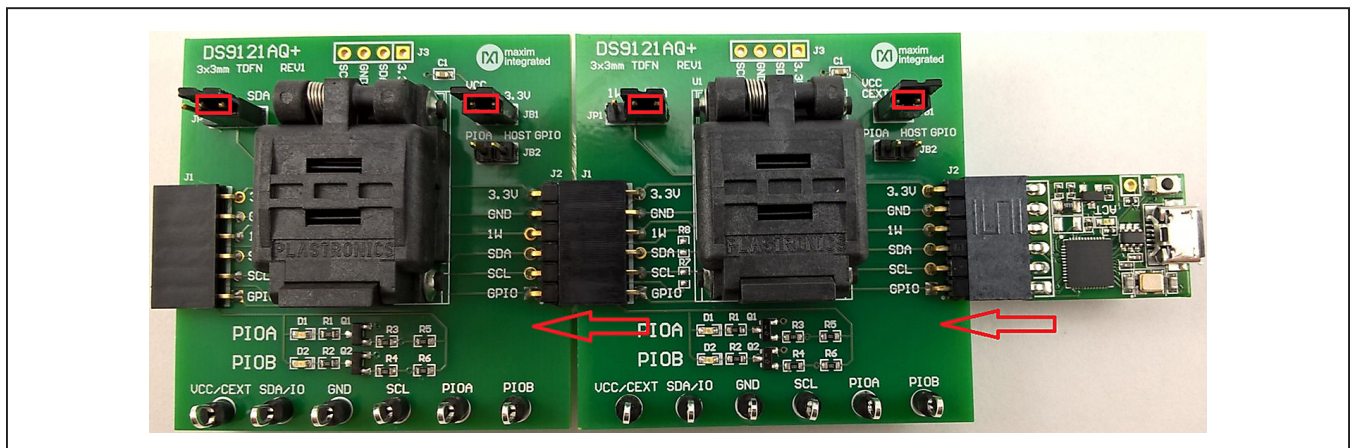

Figure 10. DS9481P-300 and DS9121AQ
- d) Connect the first DS9121AQ J2, 6-pin female socket into the DS9481P-300#, 6-pin male plug, as shown in Figure 10.
- e) Connect the second DS9121AQ J2, 6-pin female socket into the 1st DS9121AQ J1, 6-pin male plug. (Figure 10).
- f) For the first socket board with DS2476, configure the jumpers JP1 to use SDA and JB1 to use 3.3V. With the DS28E36, configure the jumpers to JP1 to use 1W and do not populate JB1 (Figure 10).